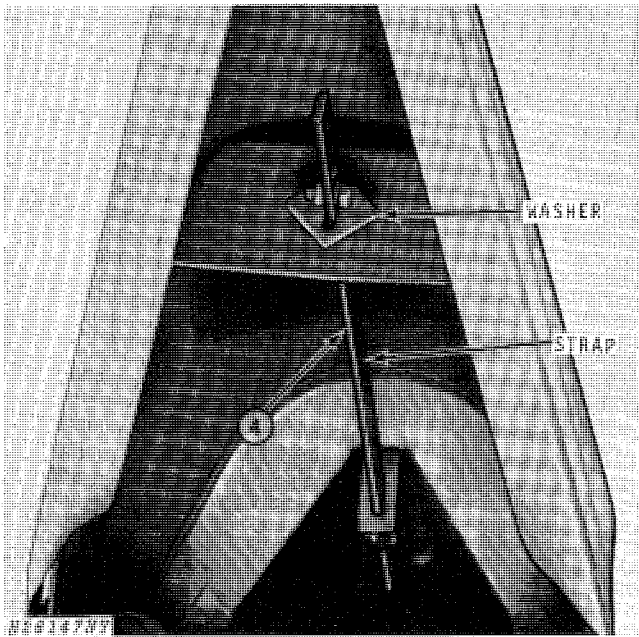

Fig. 92-Positioning Gatherer Point Height Strap
4. (642 and 842 Corn Heads Center Gatherer Only) Remove 3/4-inch cap screw from end of strap with 10 holes. Insert strap through slot in bulkhead (Fig. 92).